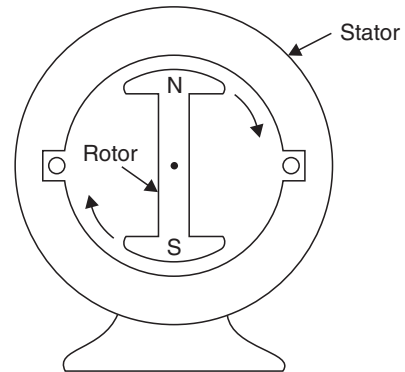

Fig. 2. Rotating a magnetic field within a stationary coil.
- 2. By *rotating a magnetic field within a stationary coil*, as shown in Fig. 2.